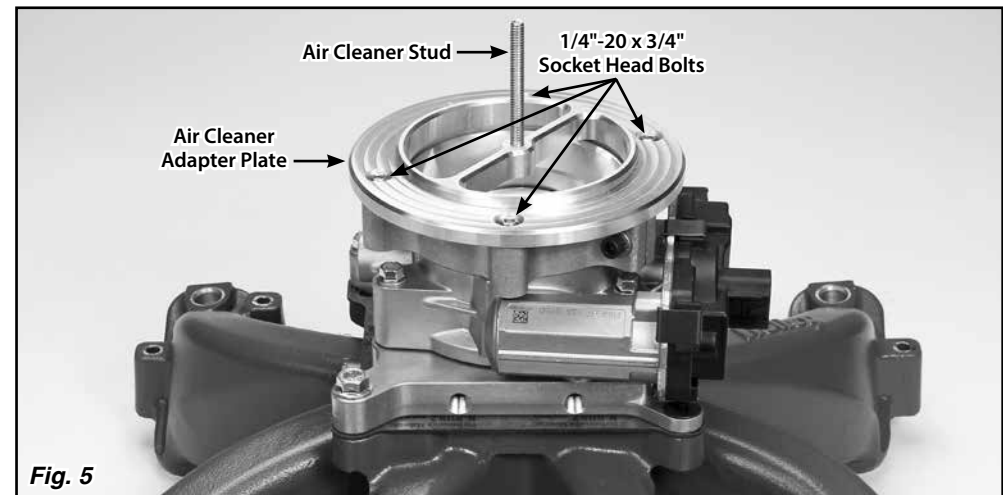

Fig. 5
Step 8: Install the air cleaner stud into the center hole in the air cleaner adapter plate, and thread it in until it bottoms out. The air cleaner stud will likely need to be shortened to fit the height of your air filter. It can be shortened from both ends if the unthreaded part interferes. **Fig. 5**
Step 9: Place the air cleaner adapter plate on the throttle body clamp. Align the four bolt holes in the adapter plate with the threaded holes in the throttle body clamp. Install four 1/4"-20 x 3/4" button head bolts and tighten using a 5/32" Allen wrench. **Fig. 5**